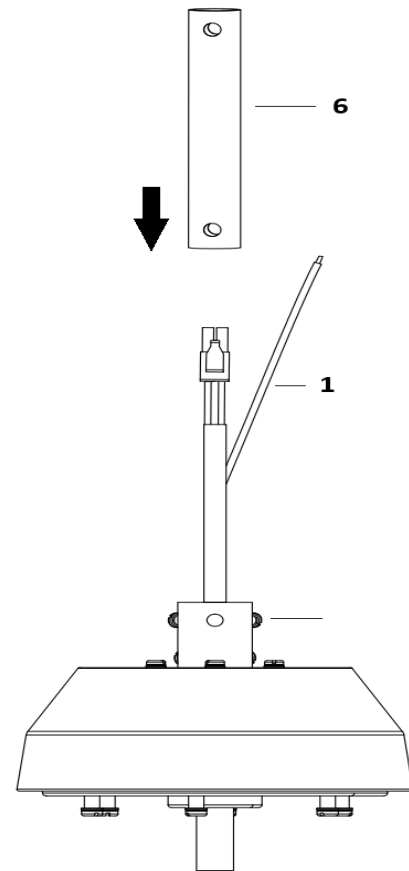

Fig. 4.3
Carefully feed the fan wires (1) up through the down rod (6). (Fig. 4.3)